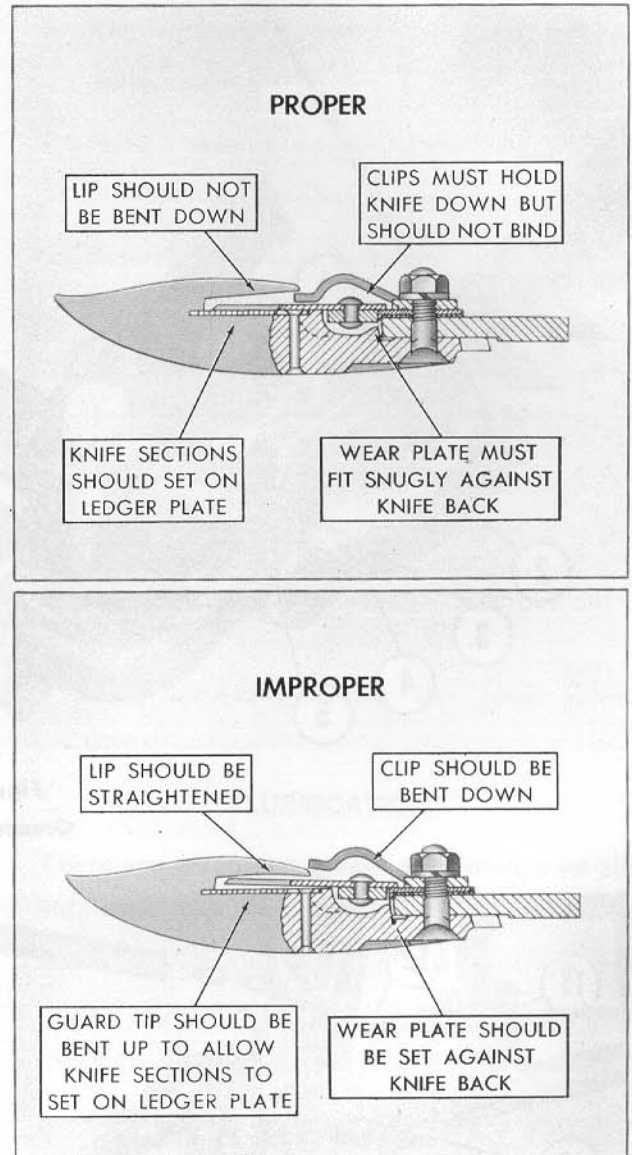

Figure 21
3. **Sickle Hold Down Clips:** These clips should ride lightly on sickle sections. (See Figure 21.) Adjust clips by striking with a hammer.